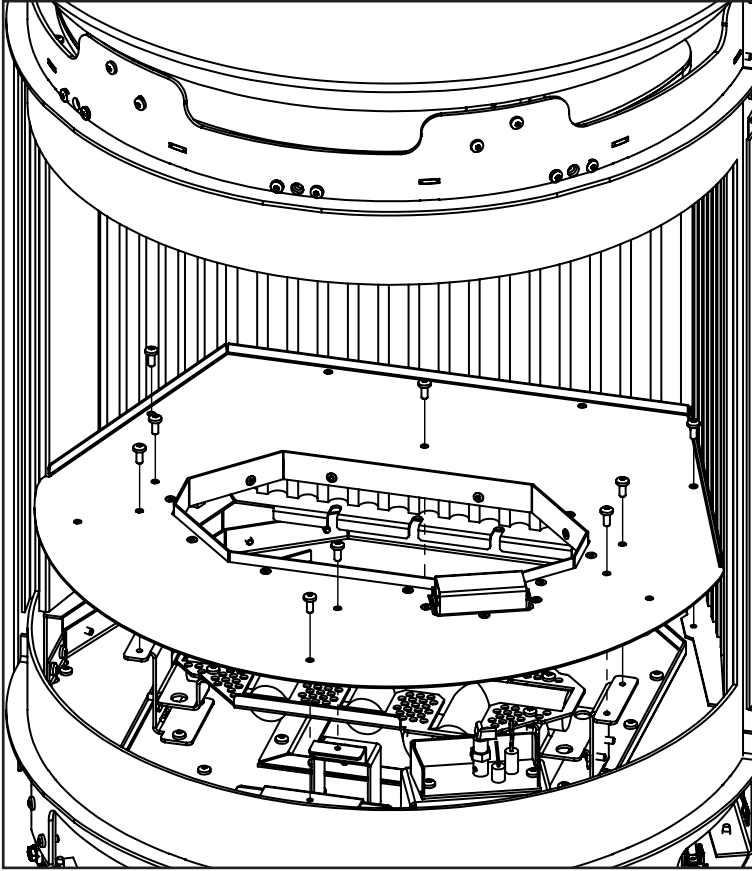

Figure 41: Burner Platform Removal
To remove the burner, first remove the door frame and glass (refer to page 17 and page 18 for details). Remove the nine (9) screws securing the burner platform using a T20 screwdriver (see Figure 41).